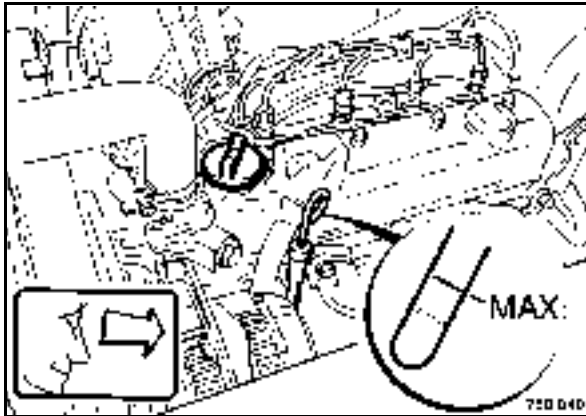

Fig. 92
- Pull the dipstick (Fig. 92) out, wipe it off with a lint-free, clean cloth and reinsert it until it bottoms.